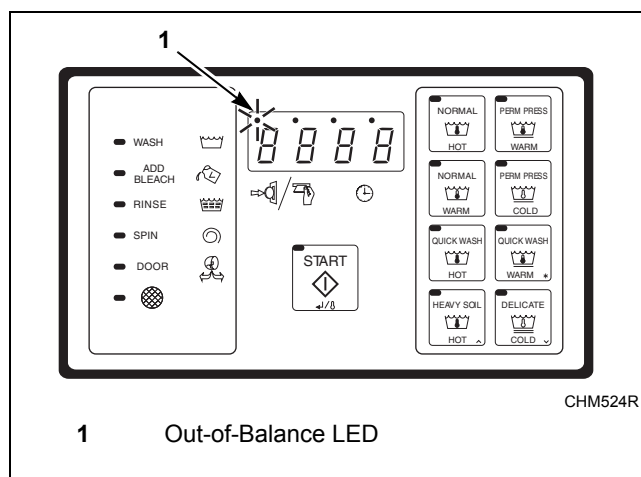

Figure 4
**NOTE: If the wash load becomes out of balance, the machine will attempt to balance the load. After three failed attempts the display will light the leftmost digit and a lower spin will be used to complete the cycle. Refer to *Figure 4*.**